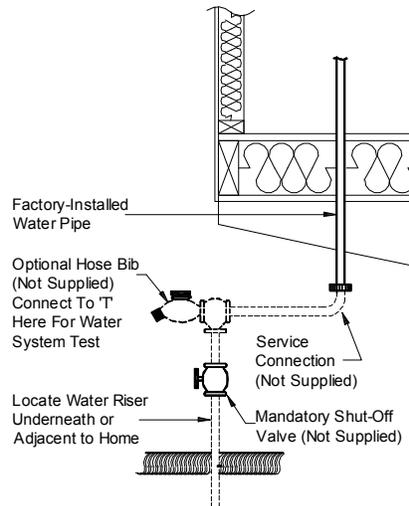

Figure 92. Water system connection
To connect the home's water system to the water source, identify the water inlet located under the home (usually below the water heater compartment or utility room) and follow the procedure described below (refer to **Figure 92**):
3. **Pressurize system.** Connect a hydrostatic pump, valve, and gauge to the location shown in **Figure 92**. Pressurize the system with water at 100 psi, and then isolate it from the pressure source. Bleed all air from the highest and farthest points in the system.